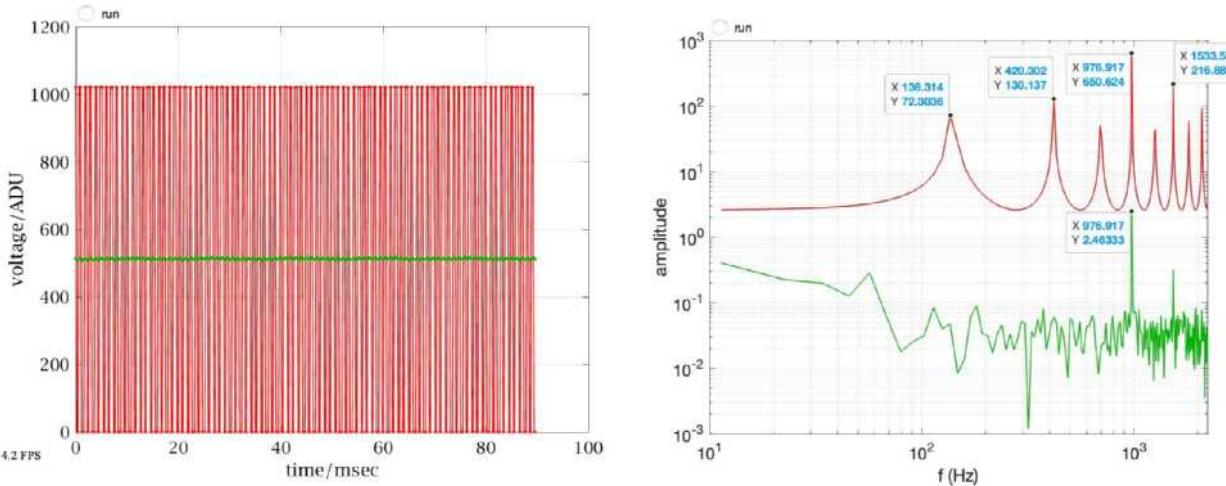
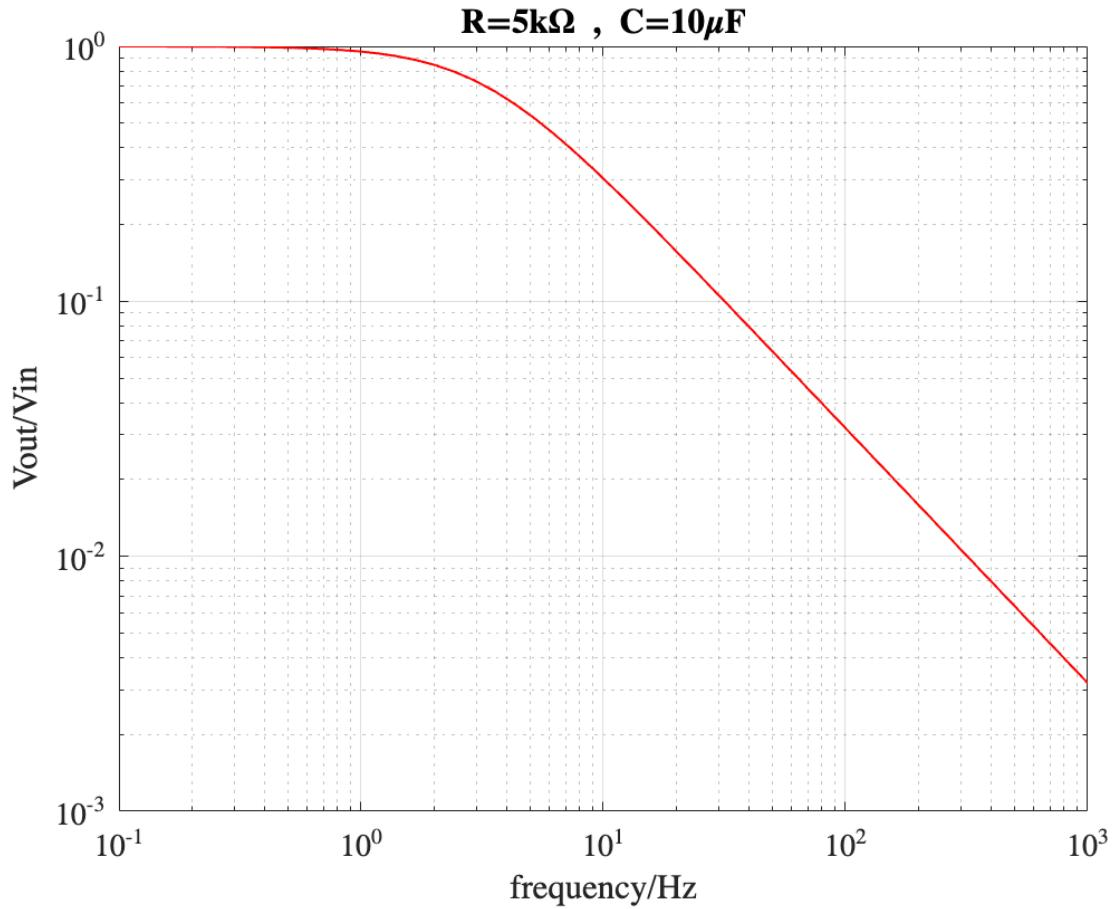

Figure 4. Time series and spectra for PWM = 128.
Figure 5. Modeled gain of our RC filter.
The RC filtered data (Fig. 4 green) has dc amplitude = 513.30 measured above, and *all* of its frequency components are <1ADU with the exception of the PWM frequency who's amplitude is 2.46ADU. So this filter exhibits gain at the PWM frequency of $2.46/651 = 3.78 \times 10^{-3}$ or an attenuation of 99.6%.
1. We can think of the curve (Fig. 5) as the "transfer function" of the RC circuit, where $V_{out}/V_{in} = \text{gain}$. Since it's a passive circuit, the gain is always less than 1.
But we're still exploring the weeds, here's the *significance* of this model. Our RC filter model predicts gain at the PWM frequency, 976Hz $\sim 3.5e-3$ from the far right side of Fig. 5, *very* close to what was measured by the ratio of the two 976Hz peaks in Fig. 4 (3.78e-3).
But back to practicality, we have a fundamental conflict between a filter that settles quickly and one that attenuates the PWM frequency deeply. Moving Fig. 5 left improves PWM attenuation but makes settling slower, and visa versa ... what to do?
What we really need to do is change the *slope* of Fig. 5 – but how? By cascading two RC low pass filters in series, as in Fig. 7.